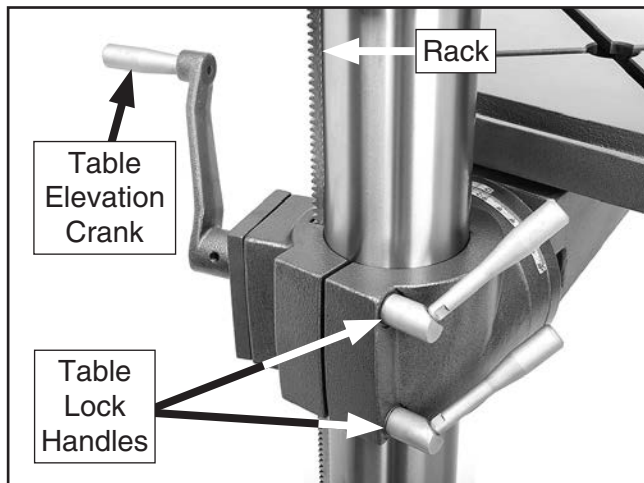

Figure 11. Table elevation and rotation controls.
2. Loosen table lock handles shown in **Figure 11**.
3. Adjust table height by rotating table elevation crank (see **Figure 11**), then retighten table lock handles.
2. Loosen table lock handles (see **Figure 11**).
Note: Ensure rack (see **Figure 11**) moves smoothly around column without binding in upper/lower guide rings.